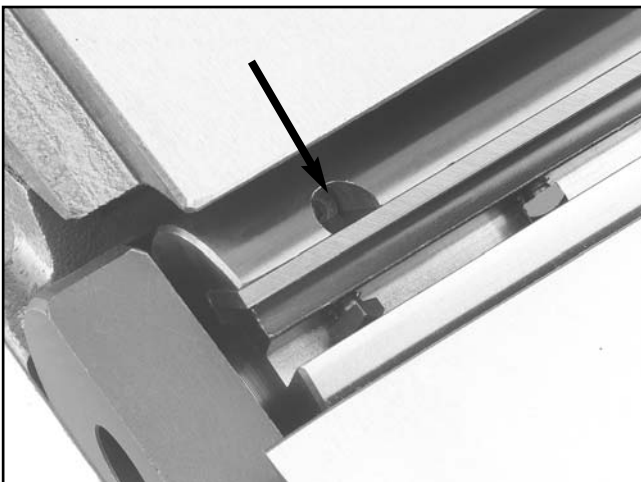

Figure 54. Jack screw access hole.
7. **Jack Screws**—Using a 3MM allen wrench, find the jack screws through the access holes in the cutterhead (**Figure 54**) and rotate the jack screws to raise or lower the knife. When the knife is set correctly, it will barely touch the middle pad of the knife setting jig. Snug the gib bolts tight enough to just hold the knife in place. Repeat **steps 5-7** with the rest of the knives.